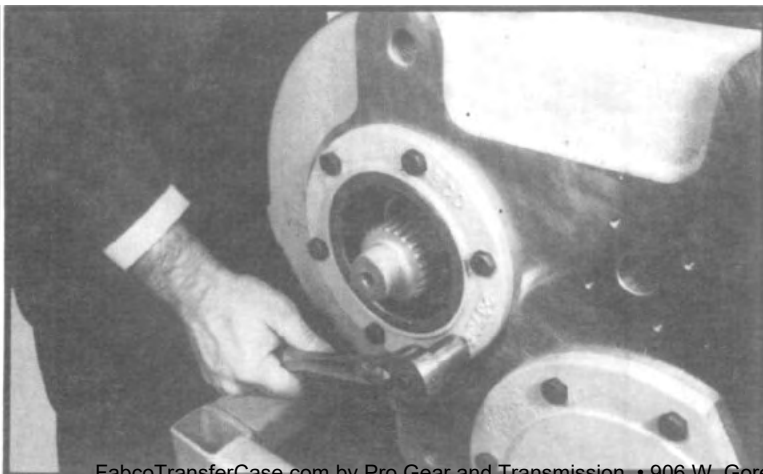

Fig. 92
7. Install front seal carrier and gasket to housing using the six capscrews. Be sure to align oil passages. Tighten capscrews to correct torque. (See fig. 92.)